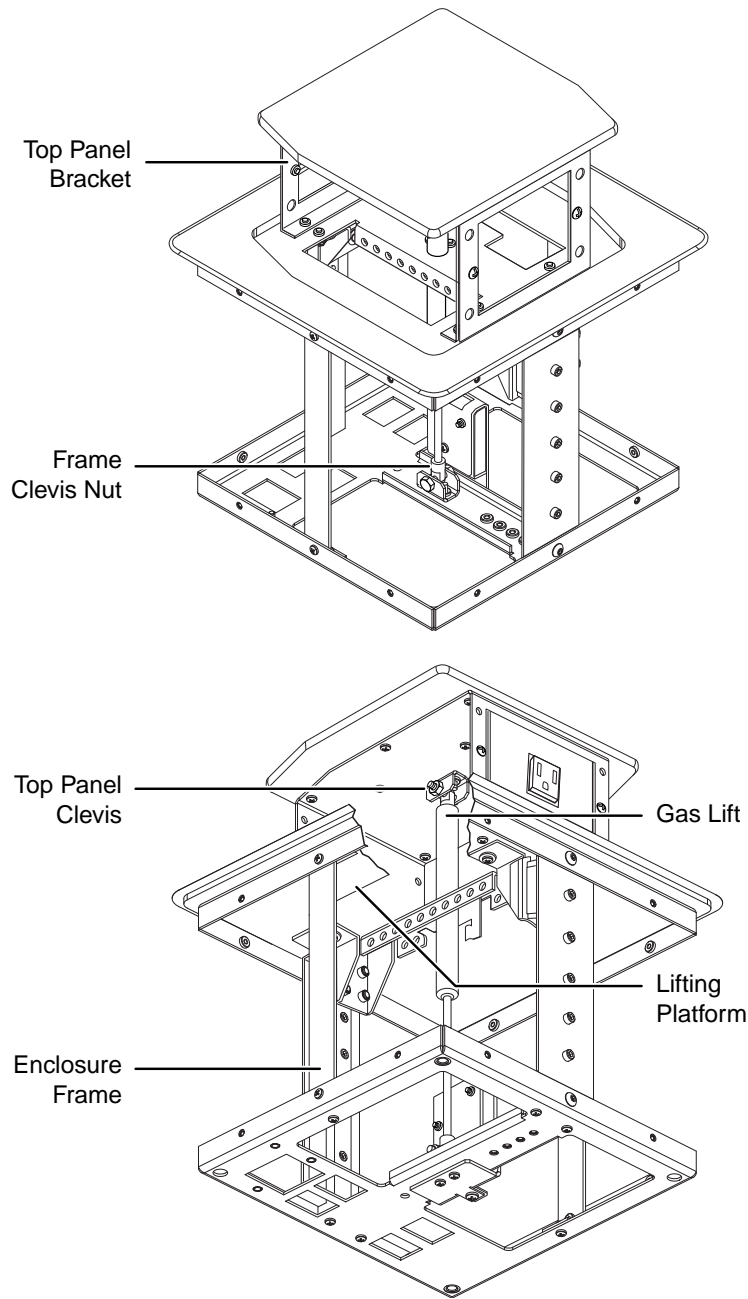

Figure 3-6 — Changing the gas lift
4. Open and close the top panel as necessary to access the center lifting platform (figure 3-6). Remove the four screws that secure the top panel bracket to the lifting platform.